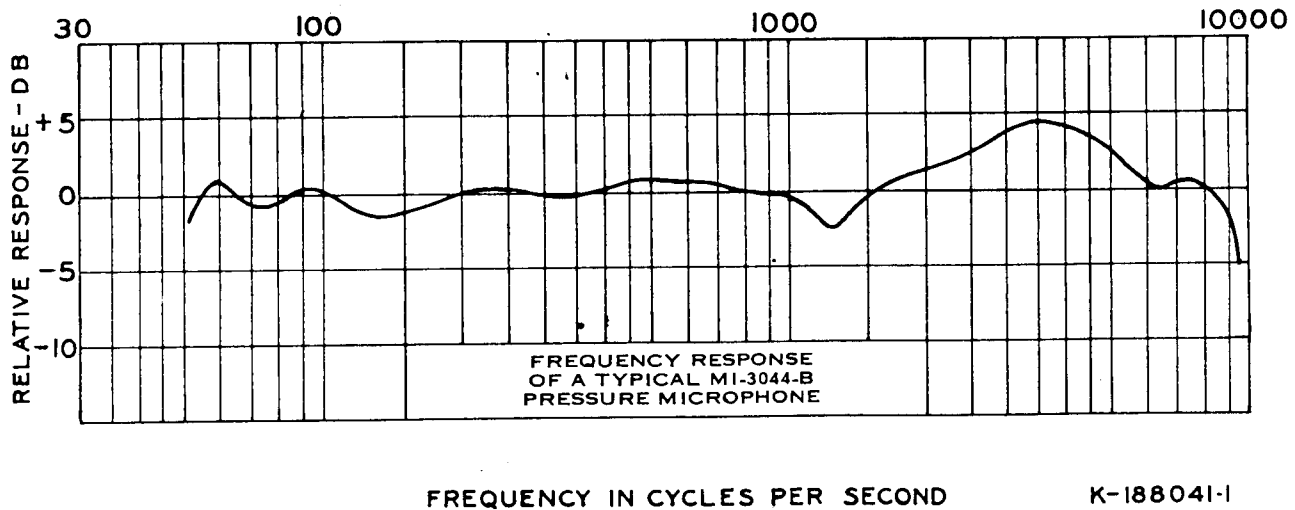

Figure 3—Frequency Response of MI-3044-B, -D, -E Microphone
(See Figure 3)
**RESPONSE** — The response of this microphone is essentially uniform over its useful range from 60 to 10,000 cycles but varies with the direction of incident sound at the higher frequencies. At the lower frequencies the response is practically unaffected by the direction of the sound source. This is similar to the response to be expected from any other well made pressure operated microphone of comparable size. See Figure 3.